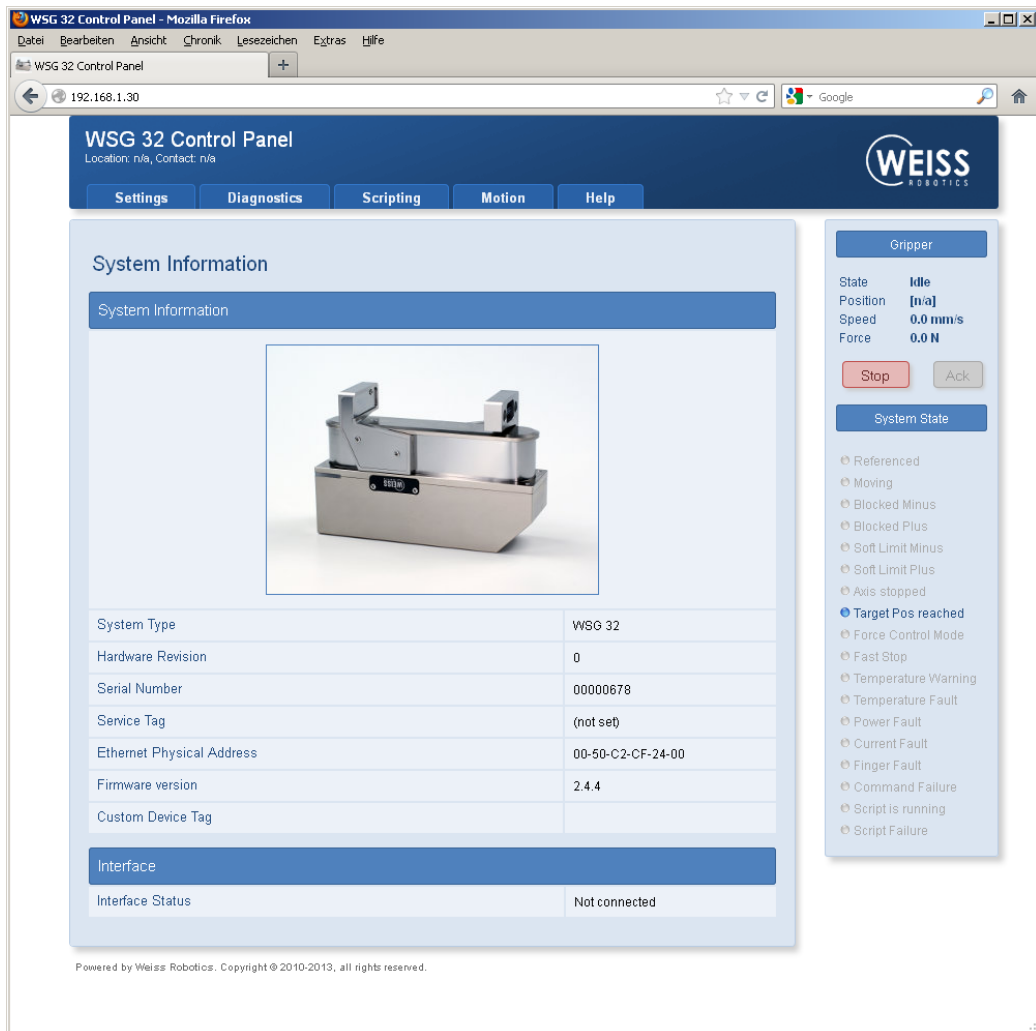

Figure 18: The starting page of the web-based interface
5. You will be presented with the module's configuration interface (Figure 18)